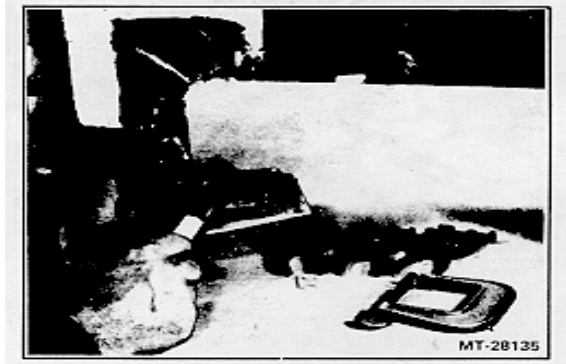

Figure 37 Applying Epoxy Adhesive
18. Apply the adhesive to underside of the repair area and also to the patch (Figure 37) Press patch in place until epoxy squeezes out from all edges